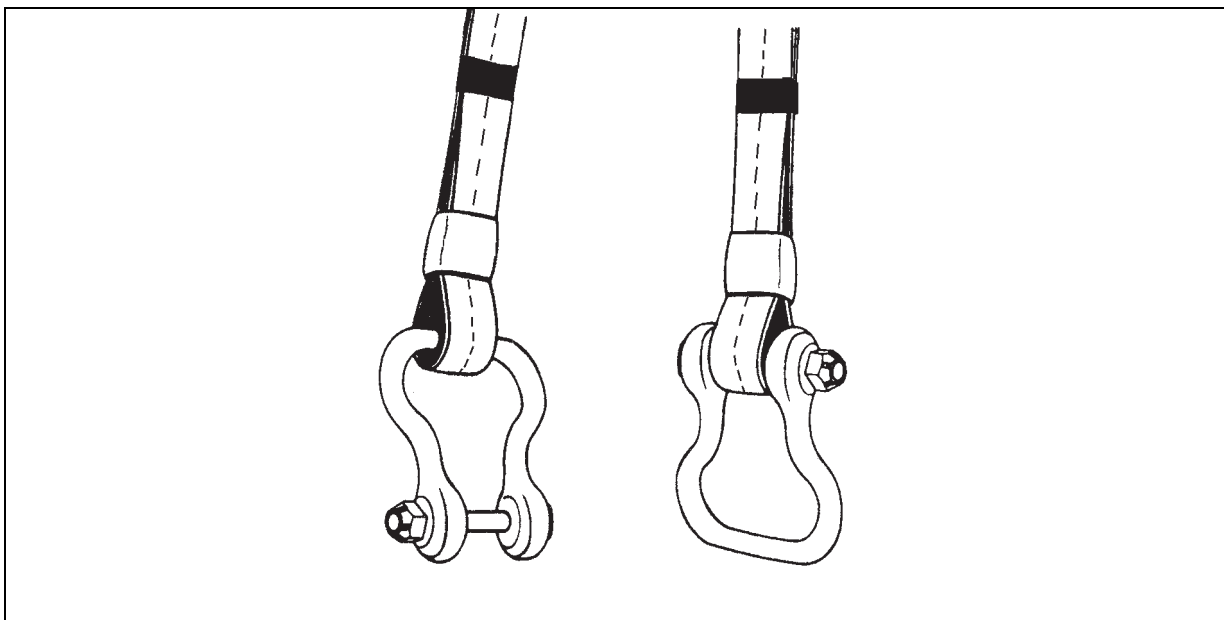

Figure 6-36. Vertical Hitch Attachment (Sling-to-Clevis)
- The most common form of load attachment is the vertical hitch (sling-to-clevis) attachment shown in figure 6-36. This method is preferred because it is the quickest and easiest to remove.